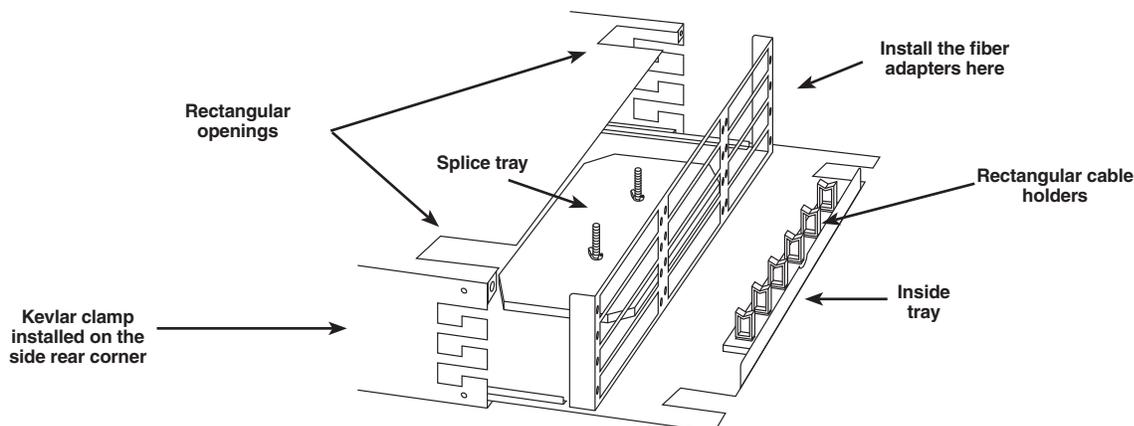

Figure 1. Fiber Rackmount Cabinet with tray pulled out.
7. Pull out the tray (see Figure 1) to install a fiber adapter and splice tray (if needed). Up to 12 fiber adapters can be installed in the JPM406A-R5; up to six can be installed in the JPM418A-R4.